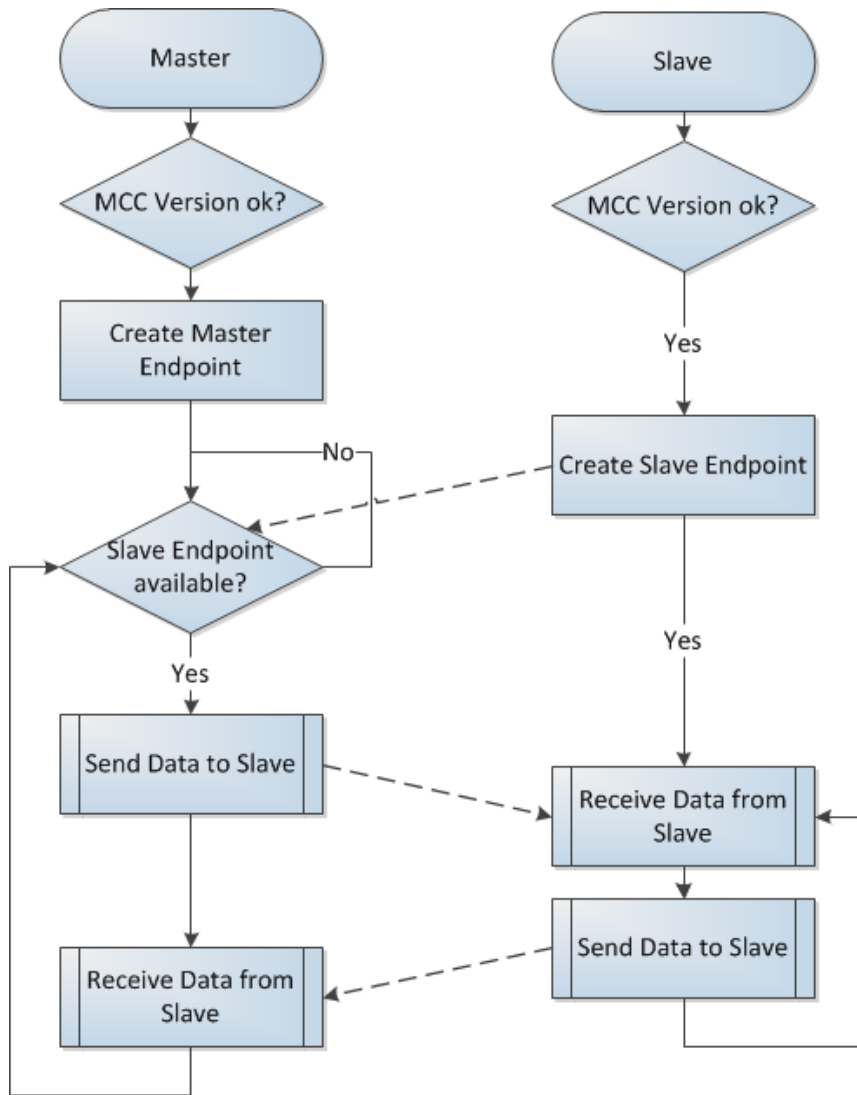

Figure 5: Ping Pong ARM DS-5 demo
- Figure 5: Ping Pong ARM DS-5 demo 8